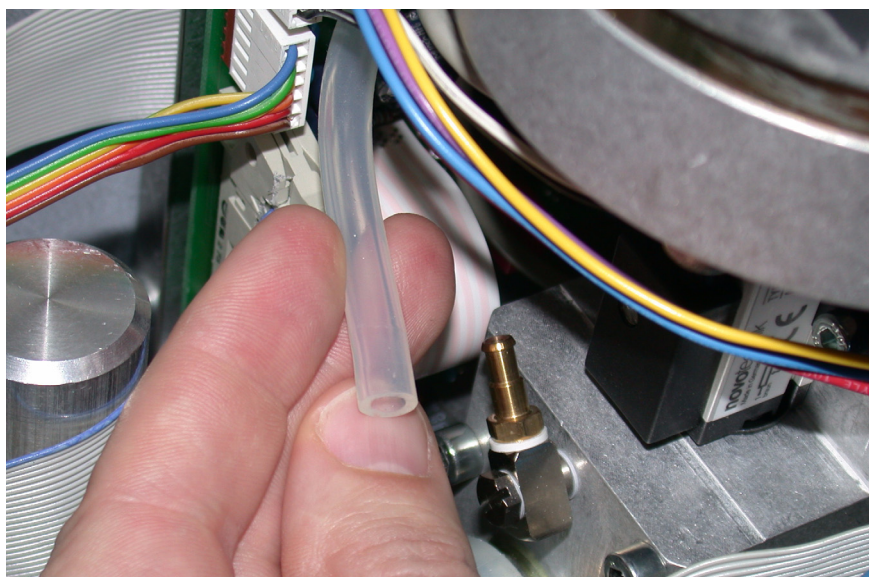

Figure 9-20. Tubing removed from the inspiratory valve
1. Remove the tubing from the inspiratory valve. (Figure 9-20.)